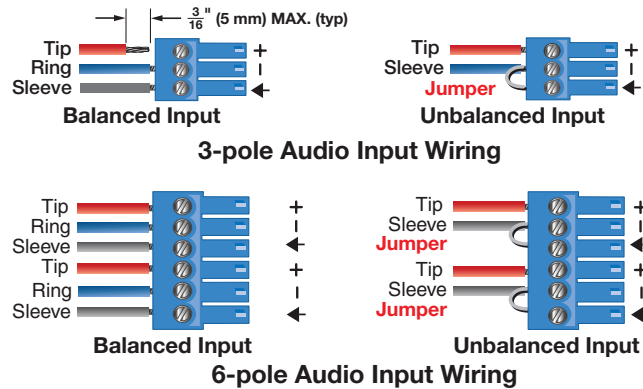

Figure 5. Analog Input (Input 5) Wiring
- Input 5 accepts a balanced or unbalanced, stereo or mono, analog input through a 6-pole captive screw connector. Figure 5 shows the correct wiring for different analog input signals using either 3-pole or 6-pole connectors.